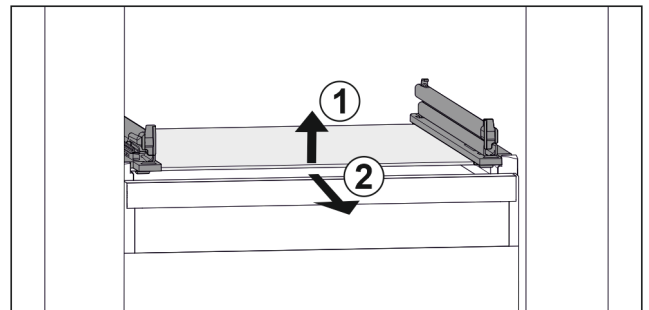

Fig. 120 Example illustration of glass shelf
- ▶ Lift glass shelf at the front. Fig. 120 (1)
- ▶ Remove glass shelf to the front. Fig. 120 (2)